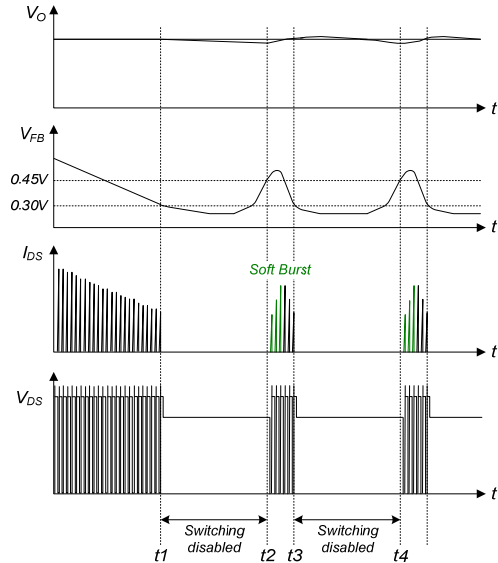

**Figure 22. Output-Short Protection**
**4.3. Output-Short Protection (OSP):** If the output is shorted, steep current with extremely high di/dt can flow through the SenseFET during the minimum turn-on time. Such a steep current brings high-voltage stress on the drain of the SenseFET when turned off. To protect the device from this abnormal condition, OSP is included. It is comprised of detecting  $V_{FB}$  and SenseFET turn-on time. When the  $V_{FB}$  is higher than 2.0 V and the SenseFET turn-on time is lower than 1.0  $\mu$ s, the FSD176MRT recognizes this condition as an abnormal error and shuts down PWM switching until  $V_{CC}$  reaches  $V_{START}$  again. An abnormal condition output short is shown in Figure 22.